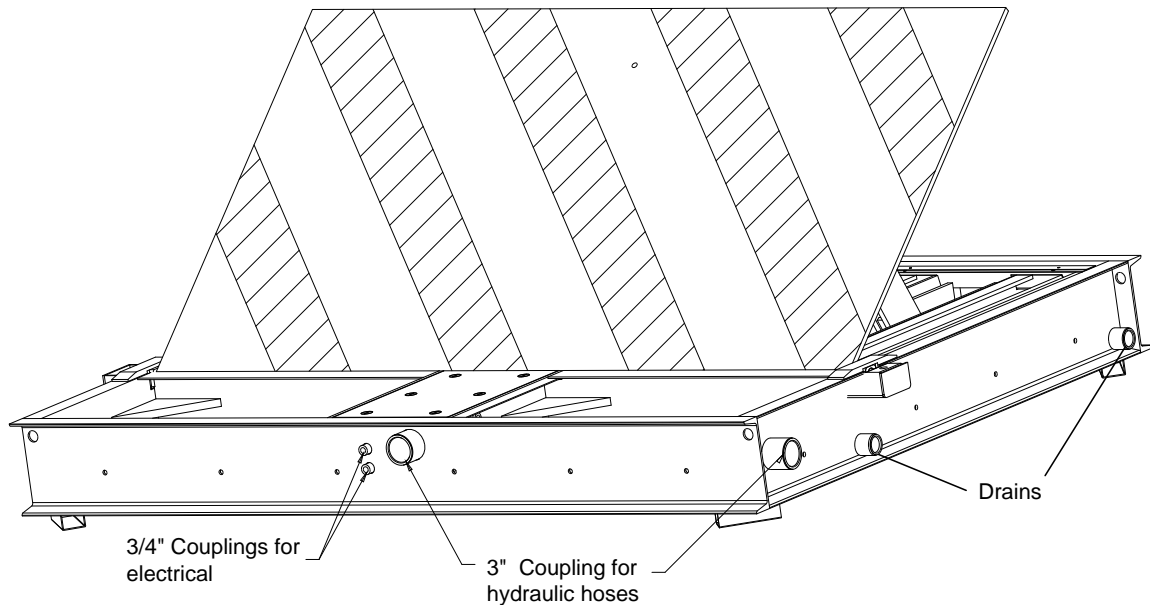

Figure 5 Conduit couplings
1. Install drain conduits to enable positive flow away from barrier. Multiple drain conduit couplings are provided (See figure 5). Seal unused conduit drain couplings to ensure concrete does not fill drain tubes.